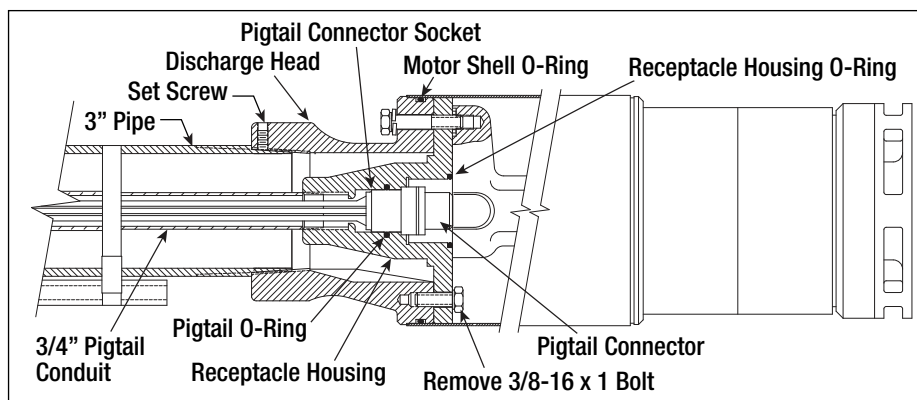

Figure 20. Discharge Head Components
7. Remove the o-ring from the sidewall of the pigtail connector socket in the Receptacle Housing and discard (see Figure 20). Install a new pigtail connector o-ring (P/N 072-712-1) into the groove in the side wall of the pigtail connector socket and lubricate with petroleum jelly.
10. Remove and discard the motor shell o-ring (see Figure 20). Replace with new o-ring (P/N 072-714-1) and lubricate it with petroleum jelly.
12. Orient the pump/motor assembly in position by starting the locating pin into the locating pin hole in the receptacle housing referred to above. The mechanical interlocking dowel pin will engage into a recessed cavity in the motor first. Gently push the motor into place until the shell starts to pass over the motor shell o-ring (see Figure 20). Position the four machine bolts into the bolt holes and start the threads. Draw all bolts down evenly until all are snug. After all bolts are snug, torque bolts to 24-34 ft-lbs (32-46 N•m).
6. At the Receptacle Housing, pull out the pigtail connector/wiring and set it aside (see Figure 20).
7. Remove the 3/8-16 x 1" bolt (see Figure 20) that secures the Receptacle Housing to the Discharge Head and pull the Receptacle Housing/conduit from the 3" pipe. Be careful not to damage the brass conduit sleeve at the Extracta end of the conduit as you remove this assembly. Set this assembly aside.
9. Loosen the Discharge Head set screw (see Figure 20) and unscrew the Discharge Head from the 3" pipe.
21. Install the pigtail connector o-ring into the groove in the side wall of the pigtail connector socket (see Figure 20) and lubricate with petroleum jelly.
25. Remove and discard the motor shell o-ring (see Figure 20). Replace with new o-ring from the kit (item 11, Figure 27) and lubricate with petroleum jelly.
27. Orient the pump/motor assembly in position by starting the locating pin into the locating pin hole in the Receptacle Housing referred to above. The mechanical interlocking dowel pin will engage into a recessed cavity in the motor first. Gently push the motor into place until the shell starts to pass over the motor shell o-ring (see Figure 20). Position the four machine bolts into the bolt holes and start the threads. Draw all bolts down evenly until all are snug. After all bolts are snug, torque bolts to 24-34 ft-lbs (32-46 N•m).